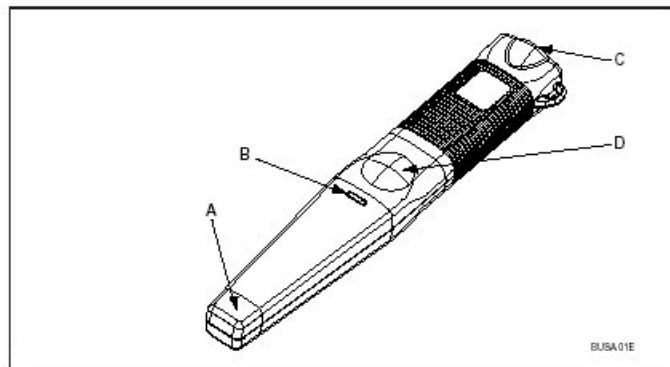

Figure 2. *Brady WavePoint Wand*
Step 1. Press the large activation button located above the handgrip. (See Figure 2.)